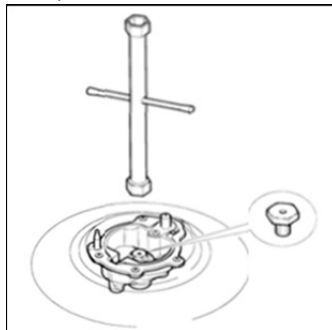

Fig. 11
- 4) Unscrew the nozzles using a 7 mm spanner, and replace them (Fig.11) with those needed for the new type of gas according to what is indicated in the Energy Consumption Table.